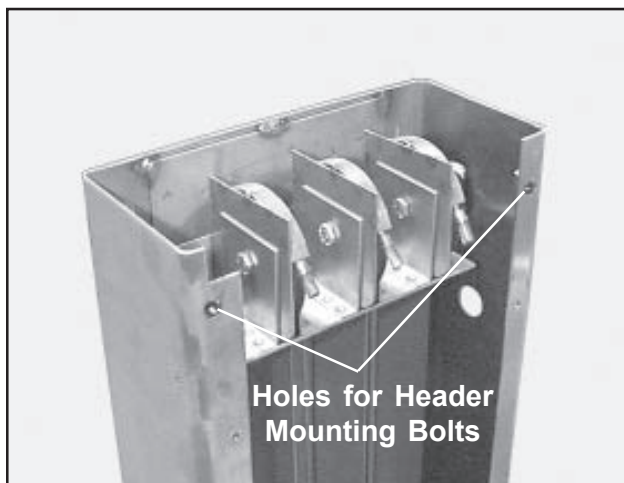

Figure 4. Top of Column Showing Header Mounting Bolt Holes
3. Secure the header in place with two bolts and washers at each end (Figures 4 and 5).